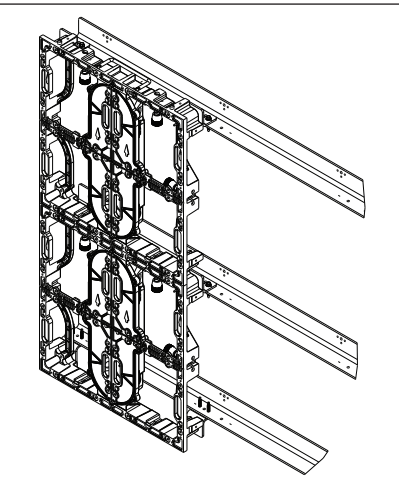

Figure 6: Install Top-to-Bottom Display Panels
- b. Start in the center of the wall and position the first display panel on the horizontal wall angles with the top panel angles on the horizontal wall angle and the bottom of the panel resting on the panel below. Refer to **Figure 6**.